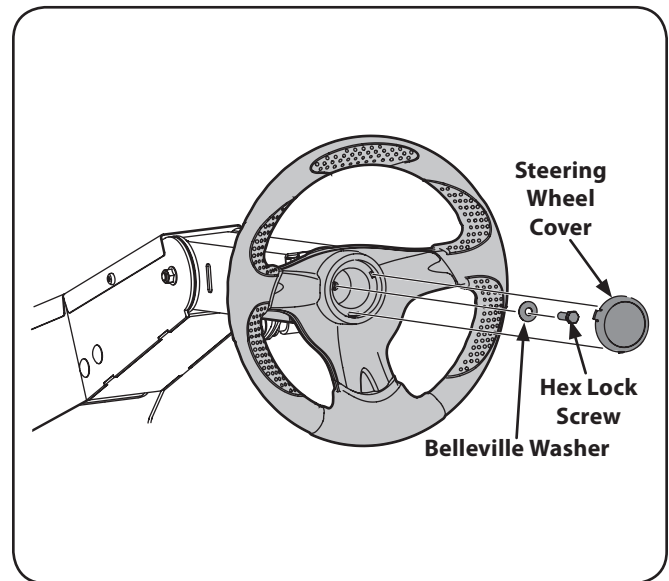

Figure 3-8
3. Place the belleville washer over the steering wheel and secure with the hex lock screw. See Fig. 3-8.